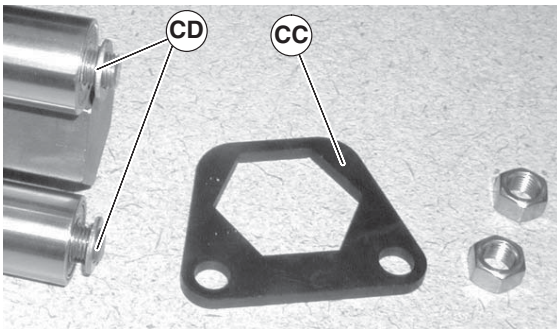

Figure 58
- Remove support plates (Figure 58, item CC) and washers (CD).